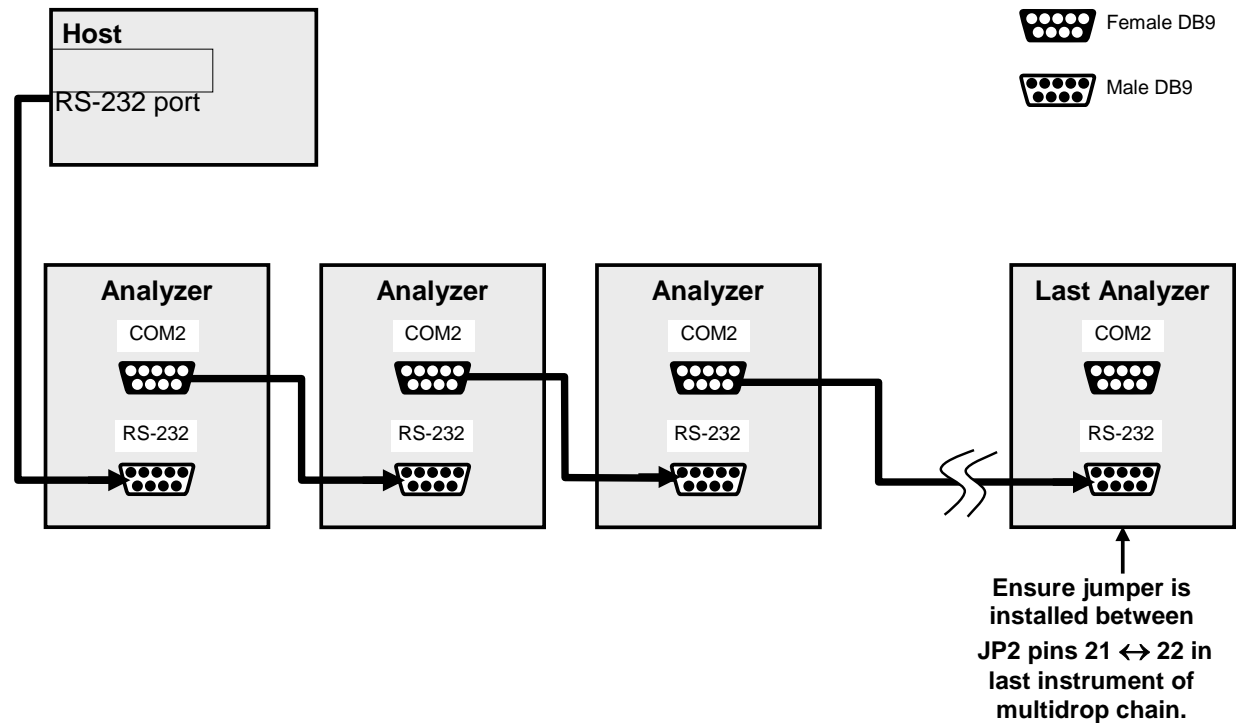

Figure 4-10: RS-232-Multidrop Host-to-Analyzer Interconnect Diagram
5. Referring to Figure 4-10, use straight-through DB9 male-DB9 female cables to interconnect the host RS232 port to the first analyzer's RS232 port; then from the first analyzer's COM2 port to the second analyzer's RS232 port; from the second analyzer's COM2 port to the third analyzer's RS232 port, etc., connecting in this fashion up to eight analyzers, subject to the distance limitations of the RS-232 standard.